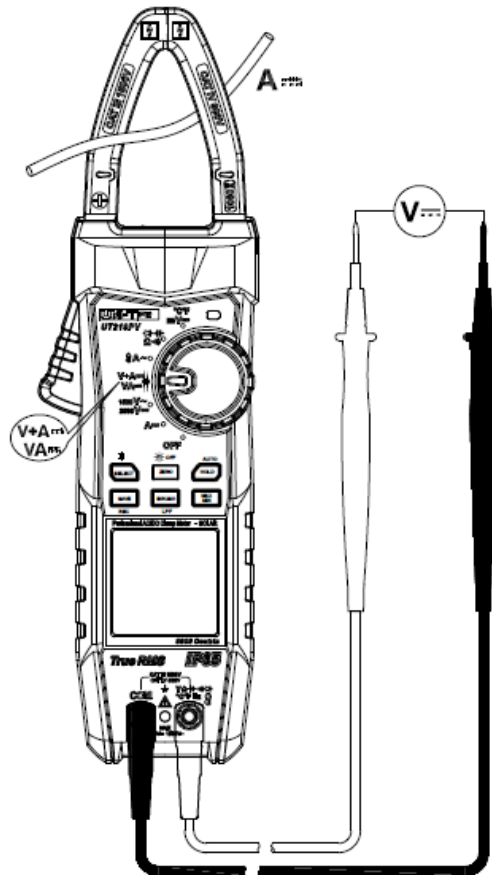

Figure 7
3. Measuring DC power and DC voltage/current (Figure 7)